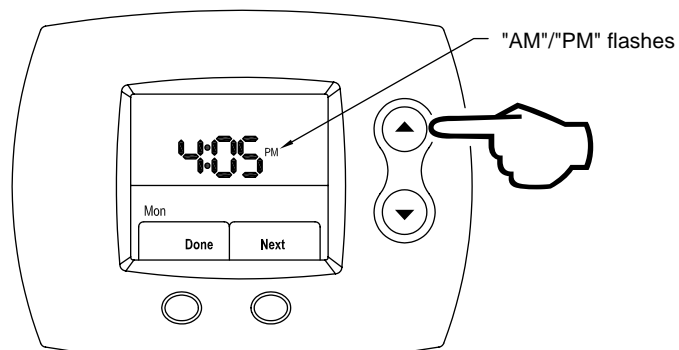

Figure 114
Step 6: Using the **UP** (index AM / PM) or **DOWN** (index AM / PM) buttons, select AM / PM, as shown in Figure 114.